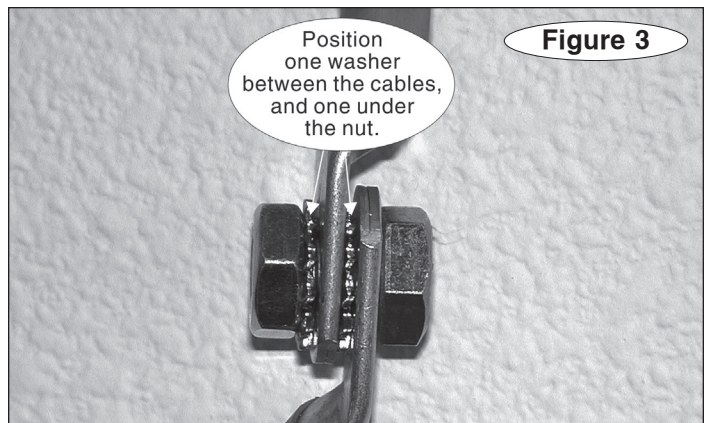

Figure 3
7. Now, slide the provided shrink tubing over the remaining cable and align the end of the cable with the end of the vehicle's positive battery cable. Connect the two cables together as shown in Figure 3. *Note: It is imperative that the star washers are positioned as shown.*